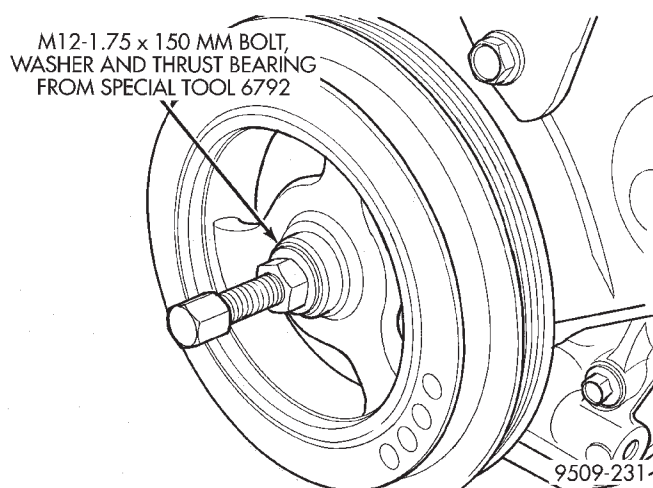

Fig. 73 Crankshaft Damper—Installation
(5) Install crankshaft damper (Fig. 73). Use thrust bearing/washer and 12M-1.75 x 150 mm bolt from Special Tool 6792. Install crankshaft damper bolt and tighten to 142 N·m (105 ft. lbs.)